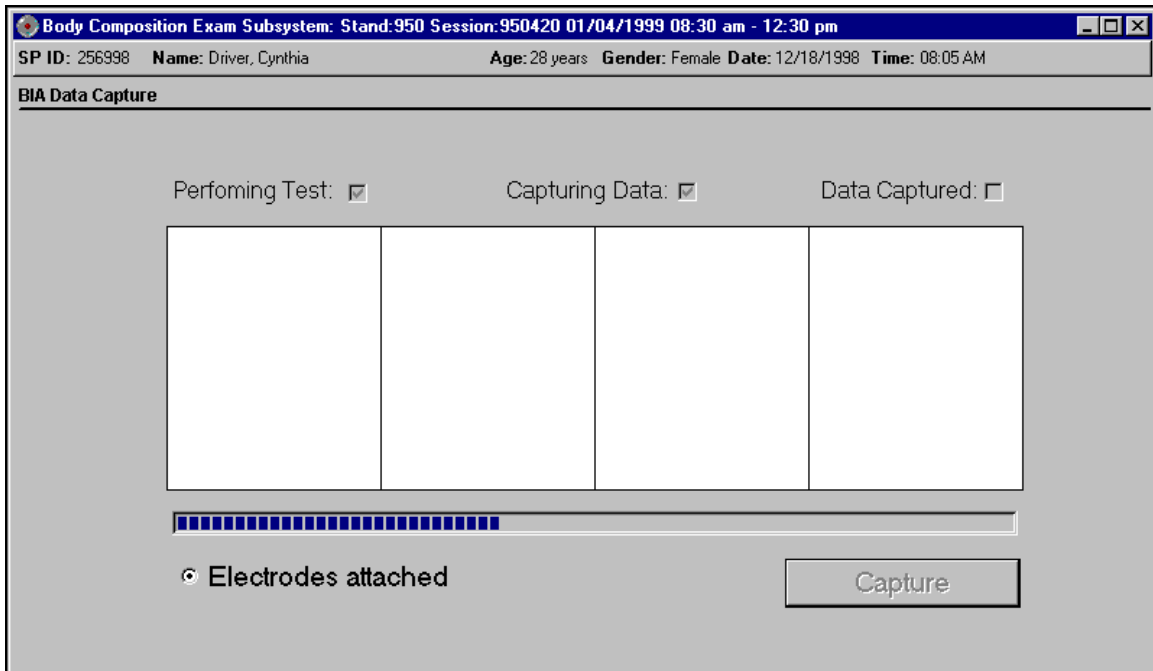

Figure 4-33. BIA data capture (2)
- When the test is completed, the system will check the 'Capturing data' button. See Figure 4-33.